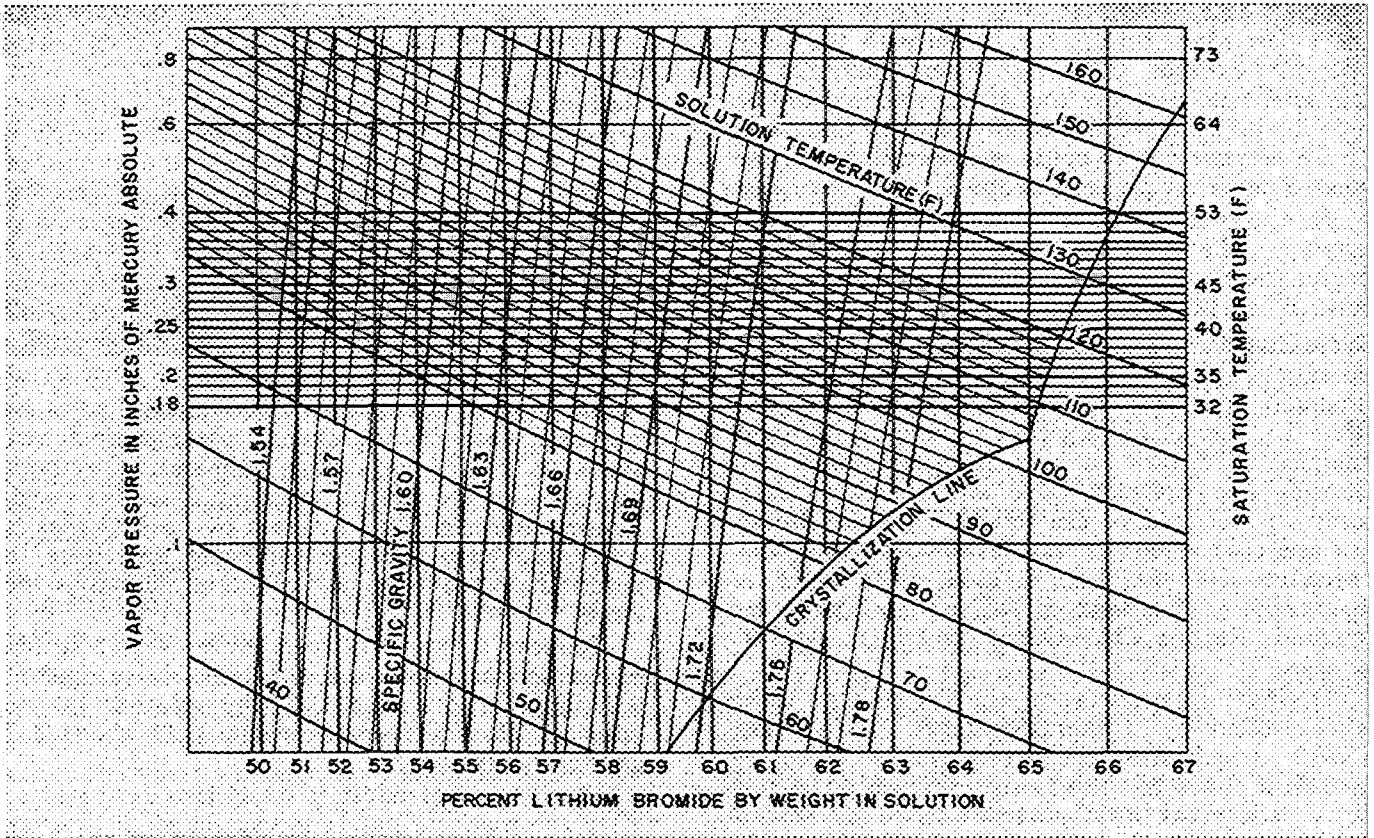
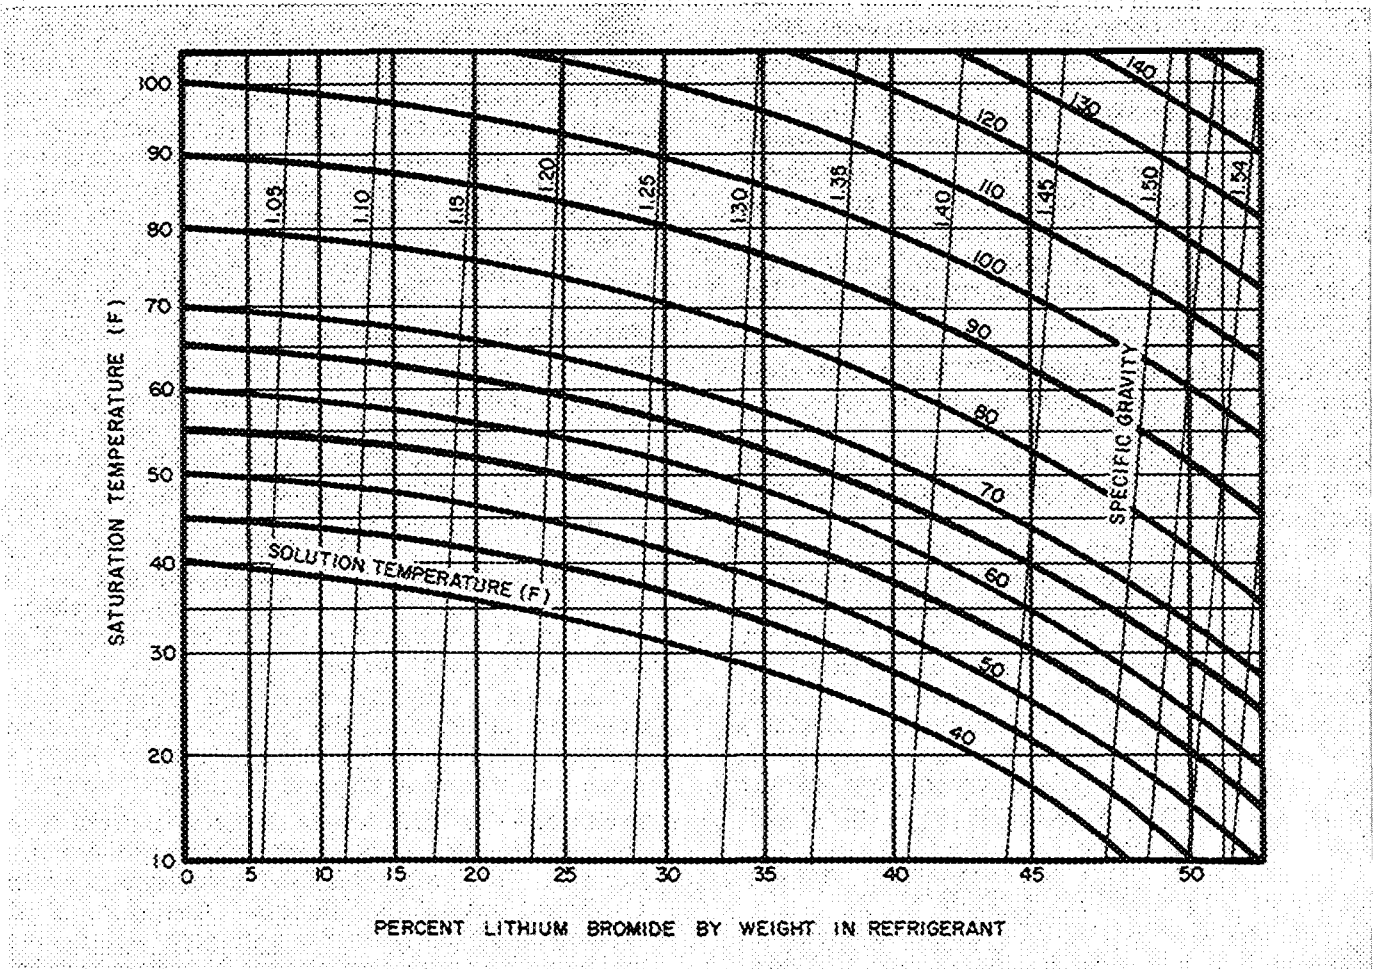

Fig. 23 – Equilibrium Diagram for Lithium Bromide in Solution
Fig. 24 – Equilibrium Diagram for Lithium Bromide in Refrigerant
Using the equilibrium diagram (Fig. 23), plot the intersection point of the specific gravity and temperature of the solution sample. Extend this point horizontally to the right and read the saturation temperature. Repeat with refrigerant sample, using Fig. 24 and reading to the left for saturation temperature.
2. Start evacuation device. After one minute, open auxiliary evacuation valve. If the machine is not operating, reduce machine absolute pressure to the pressure equivalent of the saturation temperature of the refrigerant (see Fig. 23). If the machine is operating, evacuate until absorber loss is 5 F or less (at both ends of 077-124 models).